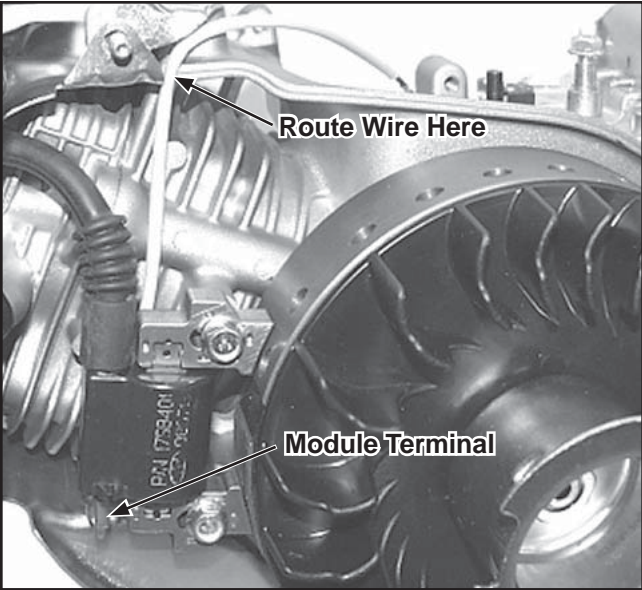

Figure 11-43. Connect Kill Wire To Module.
8. Connect the kill wire to the ignition module bottom blade terminal and route the wire lead to the top of the crankcase. See Figure 11-43.